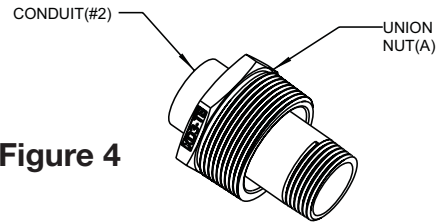

Figure 4
3. Take the Union Nut (A) and slide it over Conduit (#2). See Fig. 4.